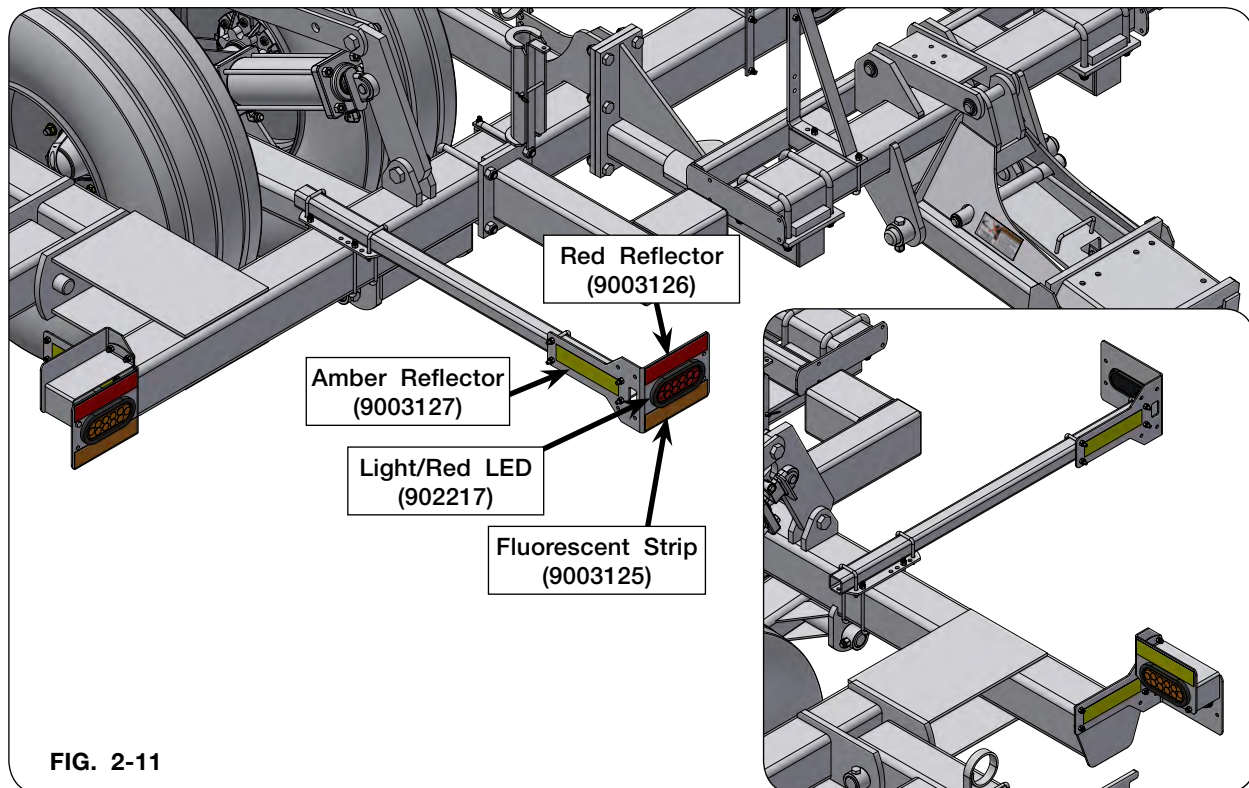

FIG. 2-11
1. Attach the light post mounting plate (JAM3408) with 3/8"-16UNC x 7" x 6 7/16" U-bolts (JBP3351) and 3/8"-16UNC elastic locknut (9398-012). (FIG. 2-11)
2. Place light bracket tube (JAM3416) on light post mounting plate (JAM3408). Secure tube with 3/8"-16UNC x 2" x 3" U-bolts (JBP3736) and 3/8"-16UNC elastic locknut (9398-012). (FIG. 2-11)
4. Install oval grommet (97182) into rear light bracket (JAM3414). Insert red oval tail light (902217). Attach rear electrical wiring harness (JAP3222) to red oval tail light (902217). (FIG. 2-11 & FIG. 2-12)
5. Attach rear light bracket (JAM3414) with 3/8"-16UNC x 2" x 3" U-bolts (JBP3736) and 3/8"-16UNC elastic locknut (9398-012). (FIG. 2-11)
6. Install yellow/amber reflector (9003127) to outside of rear light bracket (JAM3414). (FIG. 2-11)
7. Place orange decal (9003125) above red oval tail light (902217) and red reflector (9003126) below. (FIG. 2-11)